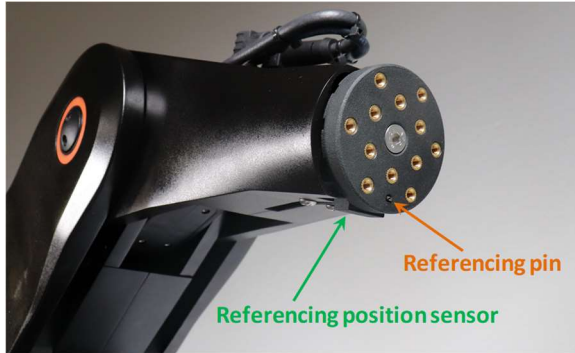

Figure 7.4: Referencing tools of Axis 5.
- This pin should ideally be jogged close to the "referencing position sensor" before starting the referencing (Figure 7.4). This speeds up the referencing process of this particular axis.